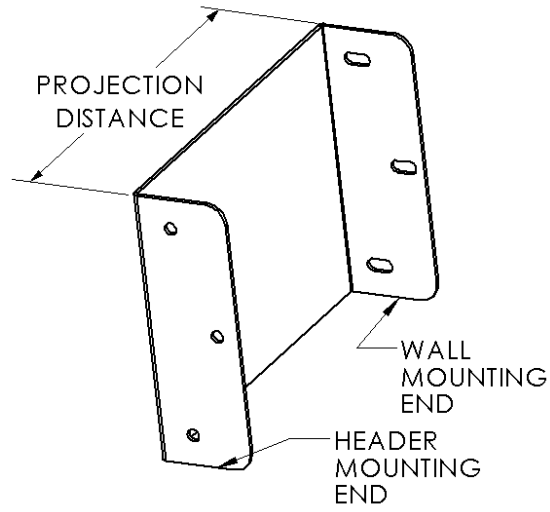

Figure 7 HEADER BRACKET
2. Locate two (2) Header Brackets and measure to the outer edges. Note this dimension for the next step. (Figure 7 HEADER BRACKET)